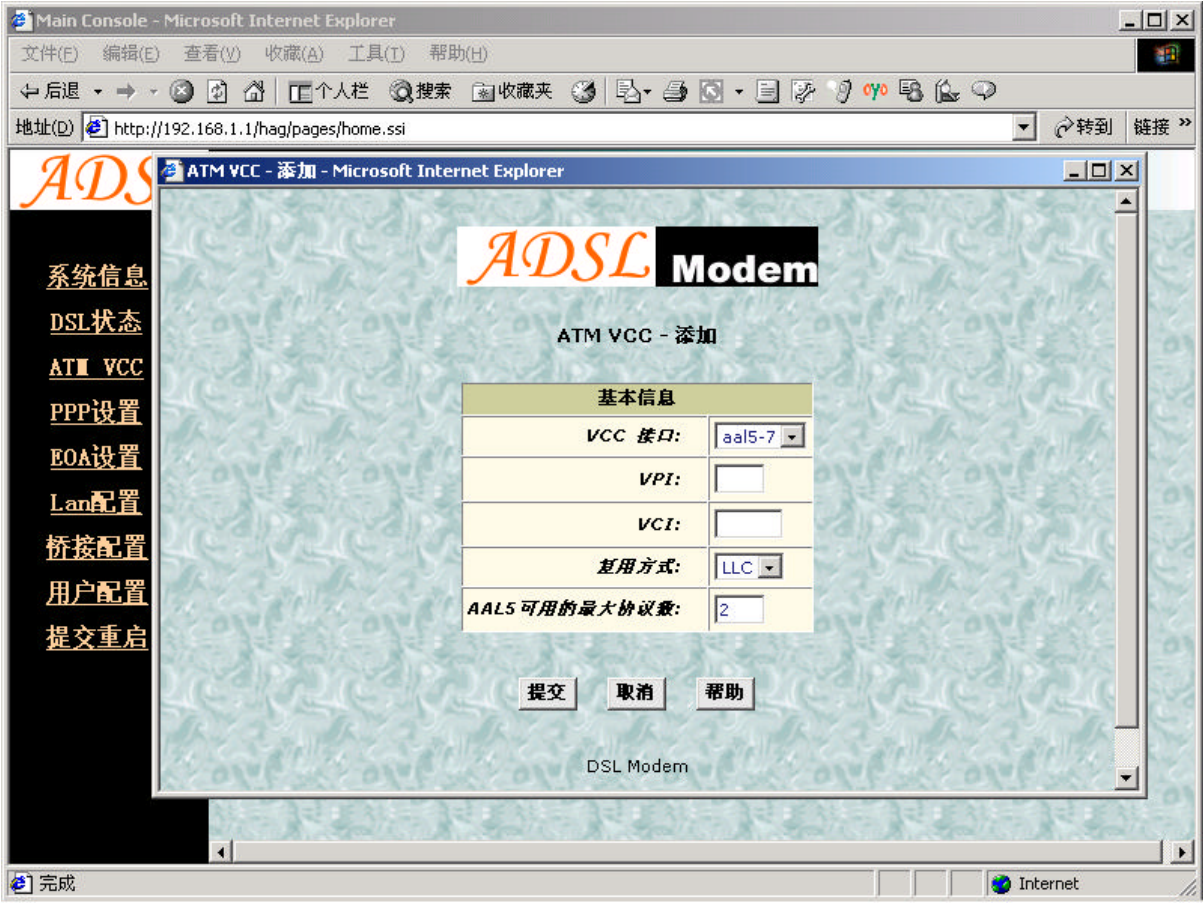

Figure 3.2
- Click the **ATM VCC** label in Page “WAN”, then click “Add” button in the ATM VCC toolbar, the pop up Window is shown as Figure 3.2.